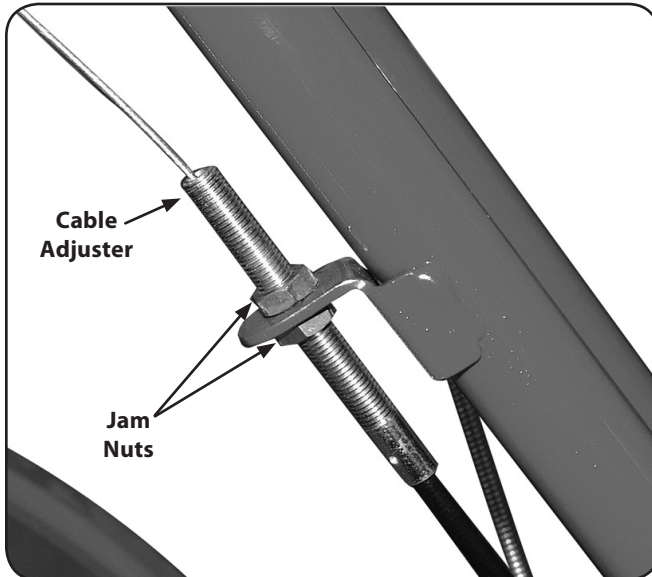

Figure 6-6
2. Belt adjustments are done with the forward clutch cable adjuster. Use two $\frac{1}{2}$ " open-end wrenches to loosen the two jam nuts a few turns. See Fig. 6-6